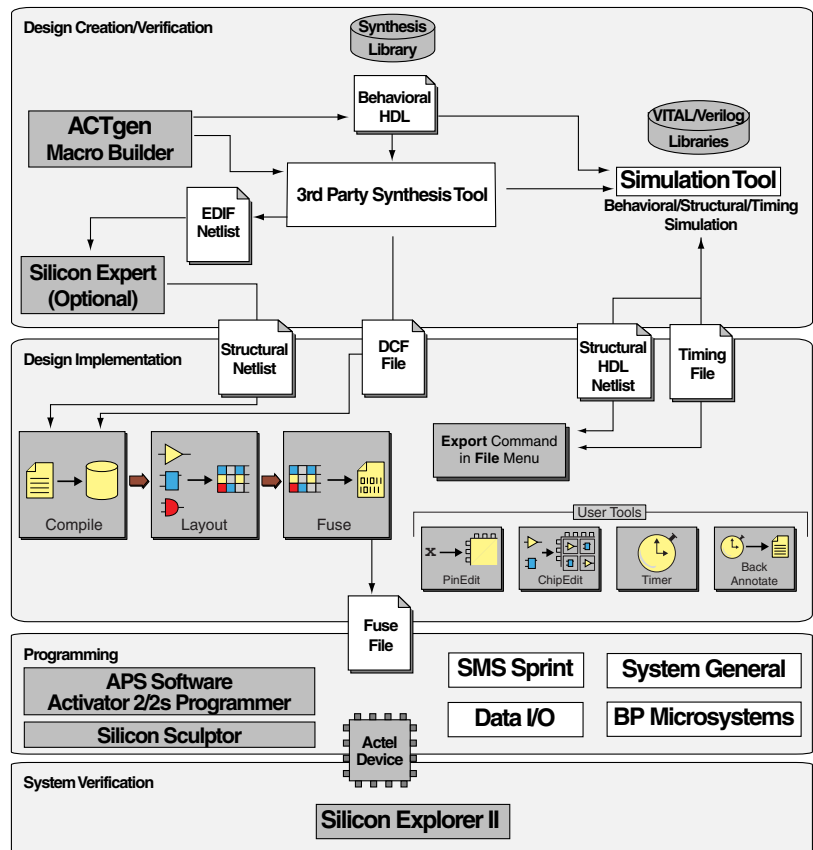

Figure 1-1. Actel HDL Synthesis-Based Design Flow
Figure 1-1 illustrates the HDL synthesis-based design flow for an Actel FPGA using third party CAE tools and Designer software1.
1. Actel-specific utilities/tools are denoted by grey boxes in Figure 1-1.